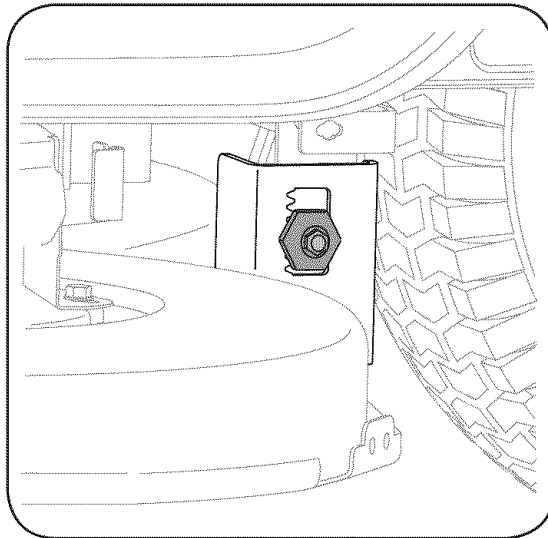

Figure 5-2
3. Loosen, but do NOT remove, the hex cap screw on the left deck hanger bracket. See Fig. 5-2.